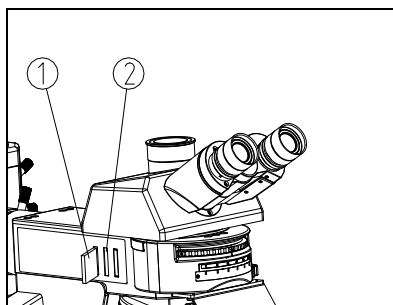

Fig.44
According to the requirements, insert filter or ND filter into position ① and ②. Make the surface with identifications face to the observer, and the filter comes into the light path when a sound of “DiDa” is heard. (See Fig. 44)